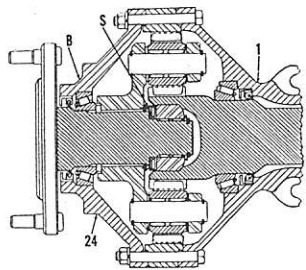

Fig. 240 — Cross sectional view of two pinion planetary drive unit.
The two-pinion planetary can be identified by the "184" part number prefix cast into the axle housing (1—Fig. 240) and by the bosses (B) appearing on outside of planetary drive cover (24).